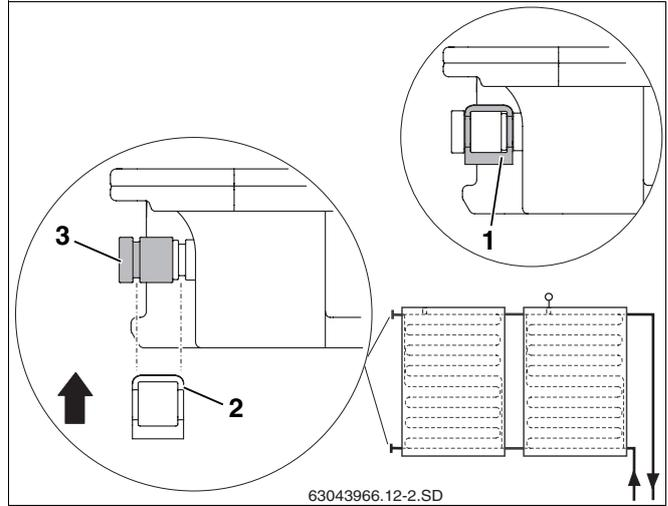

Fig. 42 Securing end cap with bracket
- ▶ Push end cap with the O-rings (Fig. 42, **Item 3**) onto the collector connection.
- ▶ Push bracket (Fig. 42, **Item 2**) over the end cap and collector connection to secure the connection.
- ▶ Secure each end cap with a bracket (Fig. 42, **Item 1**).